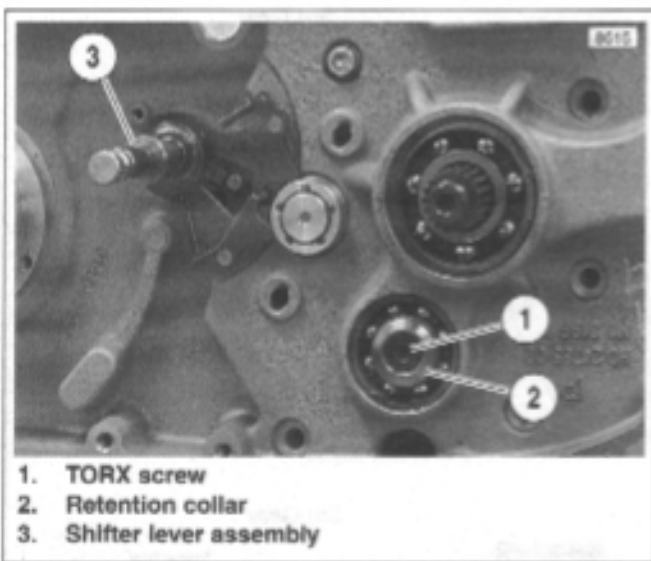

Figure 6-40. Countershaft Retainer
8. See Figure 6-40. Place transmission in 1st gear. Remove countershaft TORX screw (1) and retention collar (2).